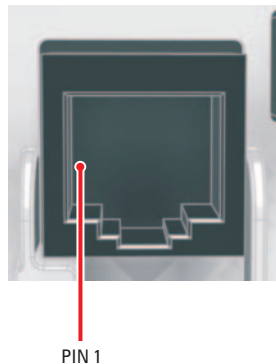

Figure 5. Multifunction Connector, Pin 1
3. Wire the cable and connectors according to Table C. Figure 5 identifies pin 1 on the multifunction connector.